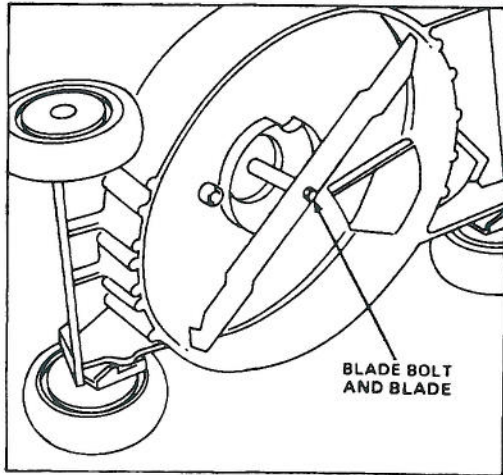

Figure 20
3. Tip mower on its right side (Fig. 20). Avoid rotating blade. Starting problems may result.
5. REMOVING BLADE — Grasp end of blade using a rag or thickly padded glove. Remove blade bolt and blade (Fig. 20).